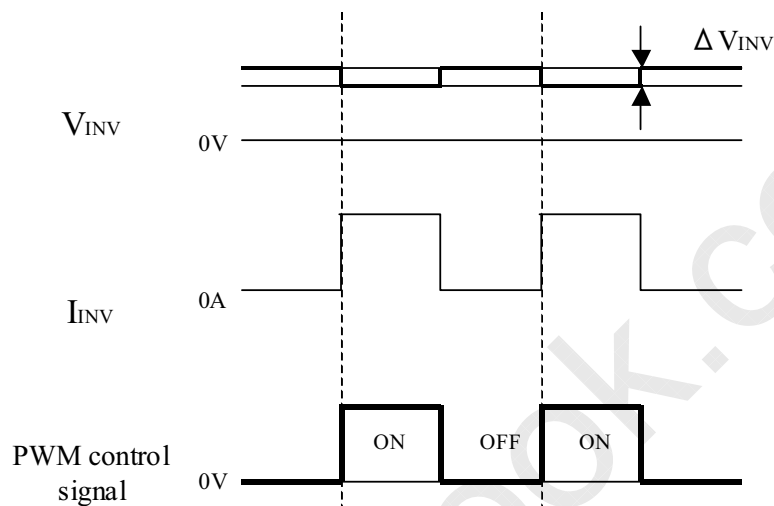

Fig.4 Brightness control voltage.
- Brightness control voltage is switched for "ON" and "OFF", as shown in Fig.4. Voltage difference generated by this switching,  $\Delta V_{INV}$ , may affect a sound output, etc. when the power supply is shared between the inverter and its surrounding circuit. So, separate the power supply of the inverter circuit with the one of its surrounding circuit.